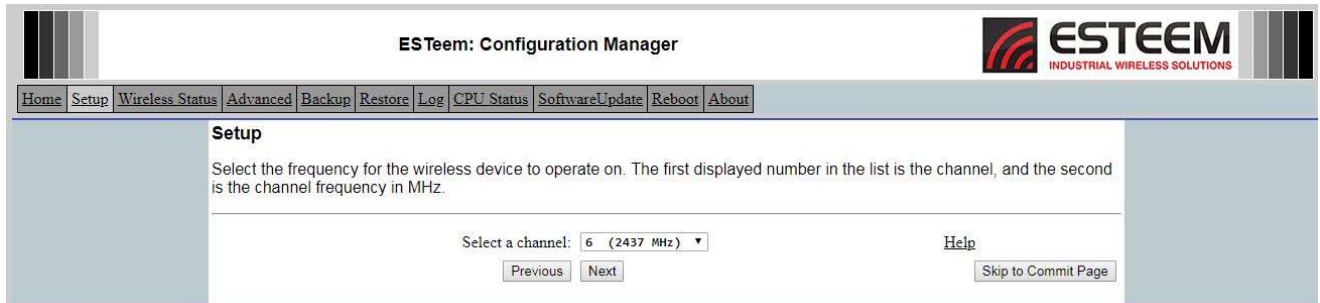

Figure 15: RF Frequency Channel
7. Select the radio frequency channel for operation. All radios in the same network must use the same frequency channel. For this example, Channel 6 (2.437 GHz) is selected (Figure 15). Press the “Next” button to proceed.